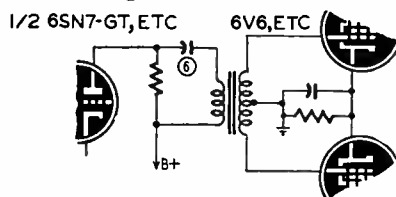

Fig. 2—Bass is improved by this change.
6. the d.c. blocking capacitor in the plate circuit of the interstage audio transformer (Fig. 2).
In the older amplifiers bass can be improved by removing the direct current from the primary of the interstage transformer, by using parallel feed such as at point 6 (Fig. 2). This change will produce an improvement of from 2 to 5 db in the low register.